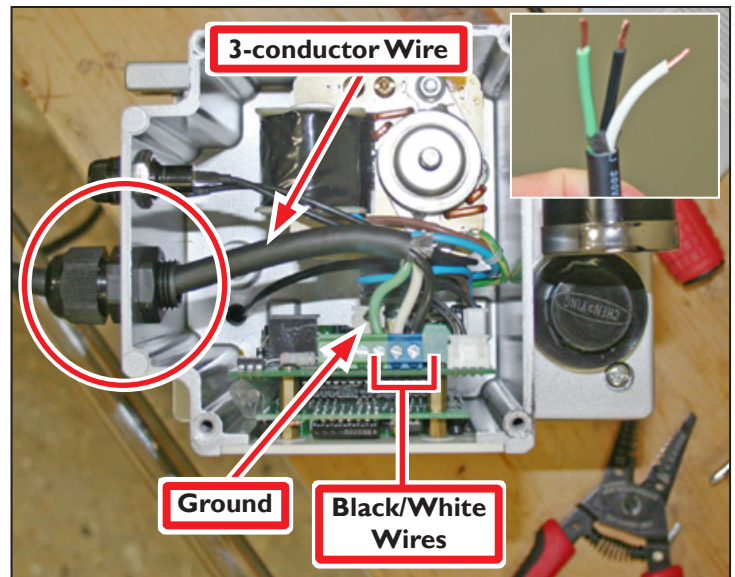

Figure 1
1. Remove automatic oiler cover plate; feed 3-conductor Wire through pre-installed cord grip assembly as shown in **Figure 1**.
2. Strip 2" of 3-conductor Wire insulation; strip wires back 1/4" and connect as shown in **Figure 1**.